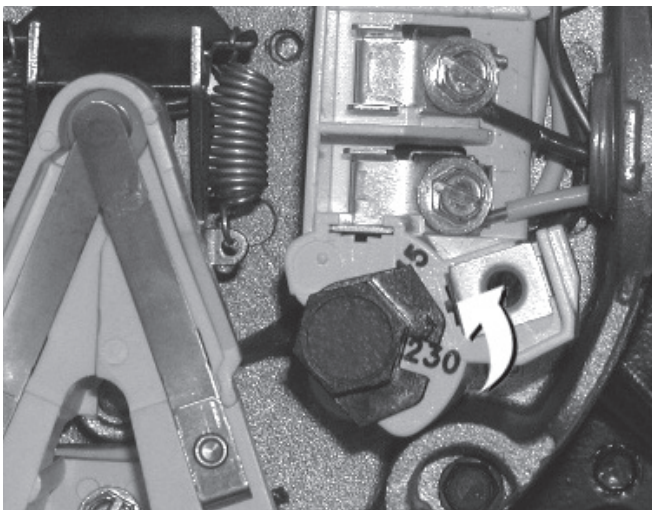

Figure 3: Changing the Voltage Setting
7. Connect current carrying conductors to terminals L1 and L2 under motor canopy. When replacing motor, check wiring diagram on motor nameplate. If the motor wiring diagram does not match either diagram in Figure 3, follow the diagram on the motor.
- IMPORTANT:** 115/230 Volt single phase models are shipped from factory with motor wired for 230 volts. If power supply is 115 volts, remove motor canopy and reconnect motor as shown in Figure 3. Do not try to run motor as received on 115 volt current.